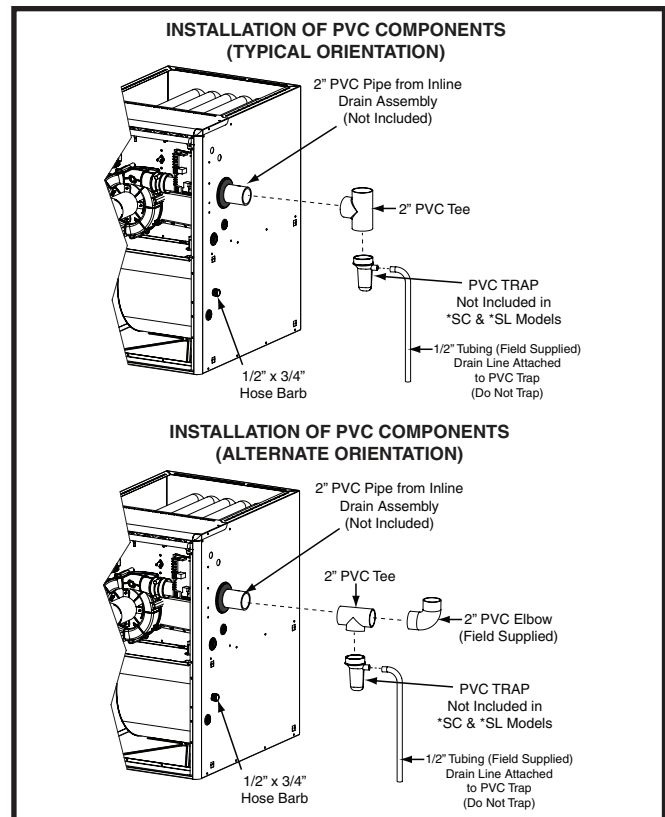

Figure 20. PVC Components
- The 2" PVC components shown in Figure 20 are not provided in the extra parts bag for *SC & *SL models. However the PVC Trap (P/N 664659) can be purchased thru your local distributor.
The 2" PVC tee, reducer, PVC Trap and 1/2" X 1/2" hose barb are used when the inducer is rotated to vent out thru the left or right side of the furnace cabinet. See Figure 20.
1. Install the PVC Tee vertically on the 2" vent pipe that is extending out the side of the cabinet. Permanently bond them together using appropriate primer and cement. Refer to the typical orientation shown in Figure 20.
1. Install the 2" PVC Tee horizontally on the 2" vent pipe that is extending out the side of the cabinet. Permanently bond them together using appropriate primer and cement. Refer to the alternate orientation shown in Figure 20.